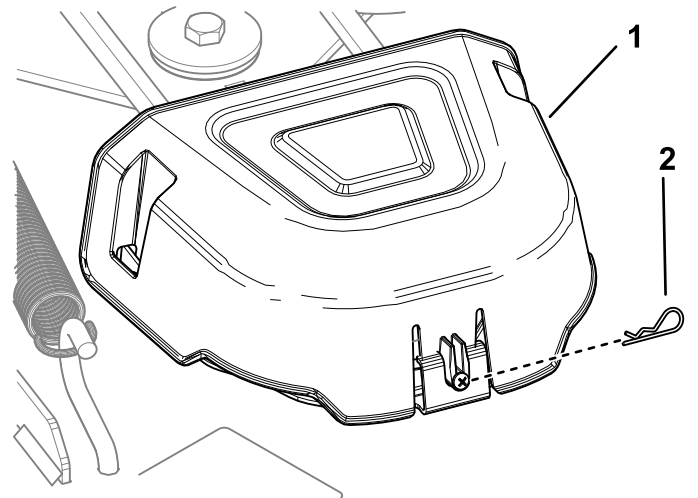

Figure 47
- Remove the hairpin cotter and push in the tab on the cover to remove the pulley covers (Figure 47).